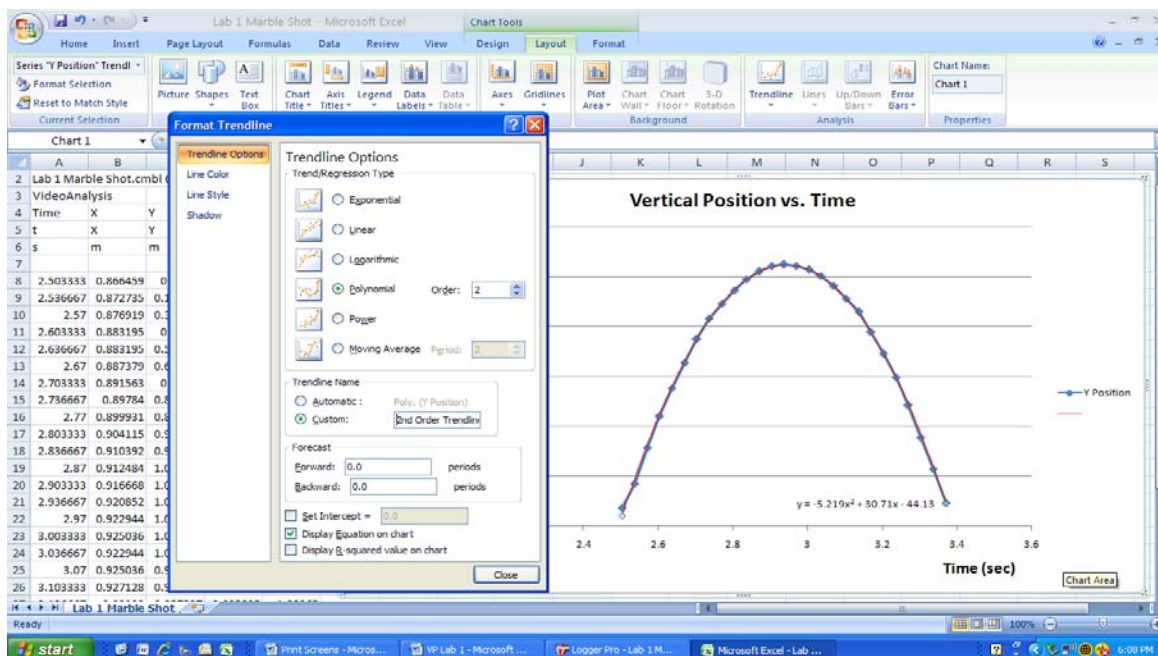
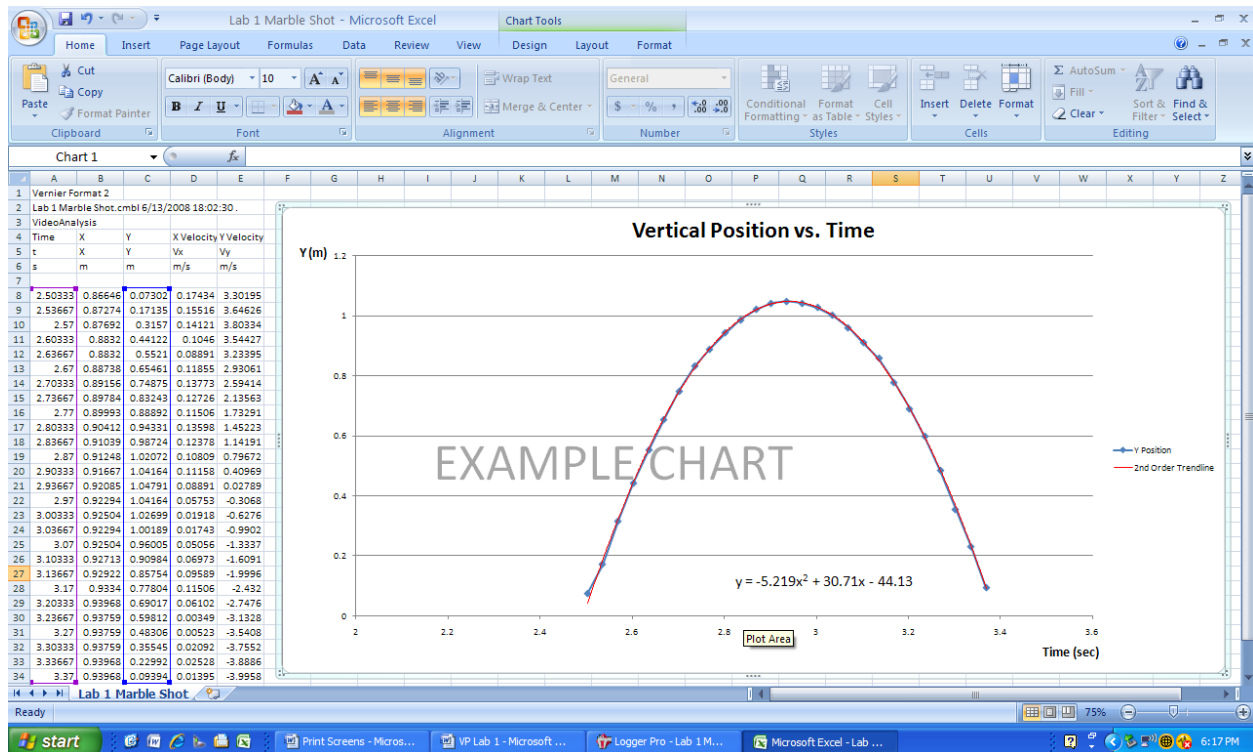

Figure 9
Figure 10
1. The acceleration due to gravity near the surface of the Earth is $g = -9.81 \text{ m/s}^2 = -981 \text{ cm/s}^2$. The marble is accelerating at g , so the marble's vertical equation of motion is a second order polynomial: $y = \frac{1}{2}at^2 + v_0t + y_0$. For vertical motion, $a = g$, and you will find g experimentally from your movies. First you need to plot a chart of the vertical motion of the marble in Excel. Use the same procedure you used in Lab 0 to make an Excel chart. The vertical axis will be the Y data column, whereas the horizontal axis will be the Time t data column. The resulting curve will be a parabola. Next, place the cursor over the curve and left-click the mouse. Now right-click the mouse and select *Add Trendline*. Select *Polynomial* and ensure it is set to *Order: 2*. In addition, check the box at the bottom *Display Equation on chart*. See Figure 9. Click *Close*. The chart should have a polynomial equation displayed. This is the equation for the best fit trendline for your parabola and is in the form $y = bx^2 + cx + d$, where b , c and d are the constant coefficients. An example chart is shown in Figure 10. To find the acceleration due to gravity, g , compare the coefficients in the equation displayed on your chart with the vertical equation of motion $y = \frac{1}{2}at^2 + v_0t + y_0$. Performing this comparison, you see $b = \frac{1}{2}a$, or $a = 2b$. However, the only acceleration of the marble is due to gravity, so $a = g$. This gives you the equation $g = 2b$, where b is the coefficient of the squared term in your trendline equation displayed on your chart. Remember that the units on the dimensions in your data are those that you set the scale with. If you set the scale in centimeters, then the dimensions in your data are in centimeters; likewise for meters. Now make a separate chart for each of the three marble launcher positions, adding the second order trendline and displaying the trendline equation on each chart. *Copy* and *Paste* these three charts into your TM. Find the acceleration due to gravity from each chart and list the three experimental values for g in your TM.